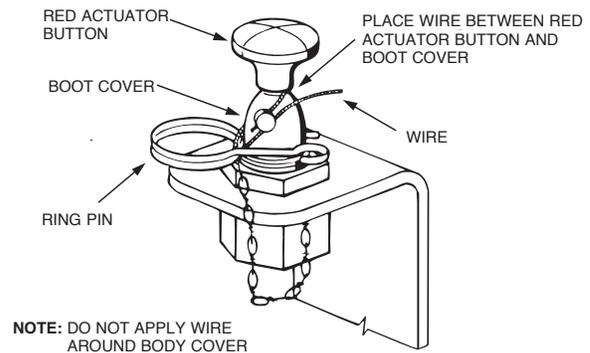

FIGURE 6-23
7. Seal ring pin to actuator stem with visual inspection seal, Part No. 197. Make certain visual inspection seal is looped through ring pin and around actuator stem. Do not wrap seal around the boot cover. See Figure 6-23.